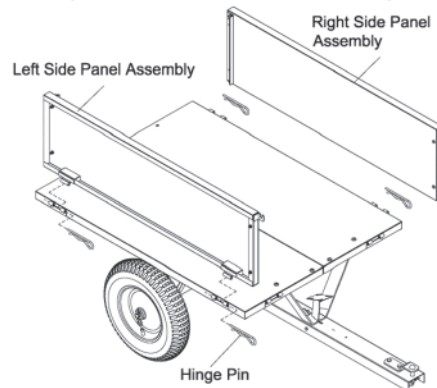

Fig. 6
STEP 6: Attach Side Panel (See Fig. 6)